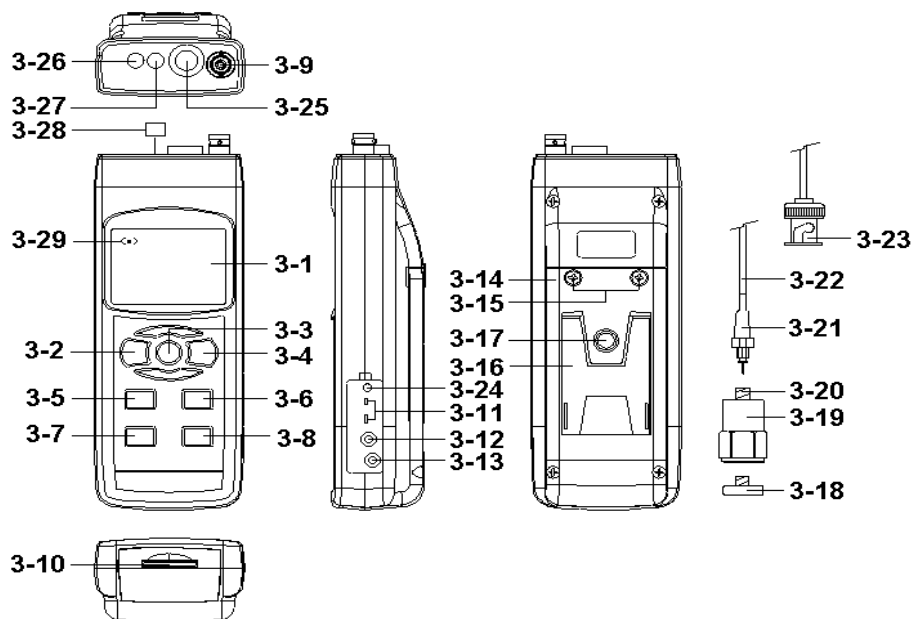

Fig. 1
Zero Button	Under Vibration measurement Function, sensor motionless , press two(▼, ▲)Buttons (3-5, 3-6, Fig. 1) >3 seconds.
Max. Hold Reset Button	Under Max. hold measurement, press two(▼, ▲) Buttons (3-5, 3-6, Fig. 1) >3 seconds.
- 1) Power on the meter by pressing the " Power button " (3-2, Fig. 1) > 2 seconds continuously.
- 2) Plug in the " Cable BNC Plug " (3-23, Fig. 1) to the " BNC Input Socket " (3-9, Fig. 1).
- 3) Plug in the " Mini plug of cable " (3-21, Fig. 1) to the " Input socket of vibration sensor " (3-20, Fig. 1).
- * *If the surface material of measuring article is the ferrous material, connect " Vibration sensor " (3-19, Fig. 1) with the " Magnetic base " (3-18, Fig. 1) Put the whole unit (Vibration sensor and Magnetic base) to the surface of measuring article.*
* Please do not use the finger or hand to touch the the " Sensor cable " (3-22, Fig. 1).
Select the desired display unit by pressing the " UNIT Button " (3-5, Fig. 1) once , the Display will show the following units according Acceleration/Velocity in sequence.
Select the desired function (RMS, Peak, Max HOLD) by short push the " FUNCTION Button " (3-6, Fig. 1) until the Display will show the desiring function (RMS, Max HOLD, Peak) .
Under execute the Max Hold function if press the " ▲ Button " (3-5, Fig. 1) and " ▼ Button " (3-6, Fig. 1) together > 3 seconds will clear the existing Max hold value.
- 1) Vibration sensor is ready, connect the " Cable BNC Plug " (3-23, Fig. 1) into the "BNC Input socket " (3-9, Fig. 1).
- 4) Under " Vibration Function" measurement if press the " ▲ Button " (3-5, Fig. 1) and " ▼ Button " (3-6, Fig. 1) together > 3 seconds will let the display reach zero value.
- 1) Power On the meter by pressing and hold the " Power button " (3-2, Fig. 1) > 2 seconds , the LCD will light.
- 2) Press and hold the " Function button " (3-6, Fig. 1) in sequence until to the " PHOTO " function be selected, in the same time the " Photo light beam " (3-27, Fig. 1) will be generated.
- 3) Apply a " Reflecting mark " (3-28, Fig. 1) to the object being measured. and align the " Laser light beam " (3-27, Fig. 1) with the applied target. Verify that the " Monitor Indicator " (3-29, Fig. 1) lights when the target pass through the light beam.
- 4) when test value stable ,press " HOLD " button " (3-3, Fig. 1) once , the test value will be keep in display .
- 1) Power On the meter by pressing and hold the " Power button " (3-2, Fig. 1) > 2 seconds, the LCD will light.
- 2) Press and hold the " Function button " (3-6, Fig. 1) in sequence until to the " TYPE K " function be selected.
- 3) type k probe inserted into the thermocouple probe terminal " thermocouple probe terminal " (3-11, Fig. 1).
- 1) Power On the meter by pressing and hold the "power button " (3-2, Fig. 1) > 2 seconds, the LCD will light.
- 2) Press and hold the " Function button " (3-6, Fig. 1) in sequence until to the " IR " function be selected.
- 5) when test value stable ,press " HOLD " button " (3-3, Fig. 1) once , the test value will be keep in display .
- 6) pressing and hold the " HOLD " button " (3-3, Fig. 1)" > 1 second laser light point will be on, release the " HOLD " button " (3-3, Fig. 1), the laser light point will be off.
During the measurement, press the " Hold Button " (3-3, Fig. 1) once will hold the measured value & the LCD will display a " HOLD " symbol.
- 1) The data record function records the maximum and minimum reading. Press the " REC Button " (3-4, Fig. 1) once to start the Data Record function and there will be a " REC " symbol on the display.
- a) Press the " REC Button " (3-4, Fig. 1) once, the " REC MAX " symbol along with the maximum value will appear on the display.
- b) Press the " REC Button " (3-4, Fig. 1) again, the " REC MIN " symbol along with the minimum value will appear on the display.
- c) Press the " REC Button " (3-4, Fig. 1) again, the " MIN " symbol will be disappeared, LCD only show the " REC " symbol, the meter start the Data Record function again.
- 3) To exit the memory record function, just press the " REC Button " (3-4, Fig. 1) > 3 seconds continuously. The display will revert to the current reading.
- 1) After power ON, the " LCD Backlight " will light automatically. During the measurement, push the " Backlight Button " (3-2, Fig. 1) once will turn OFF the " LCD Backlight ".